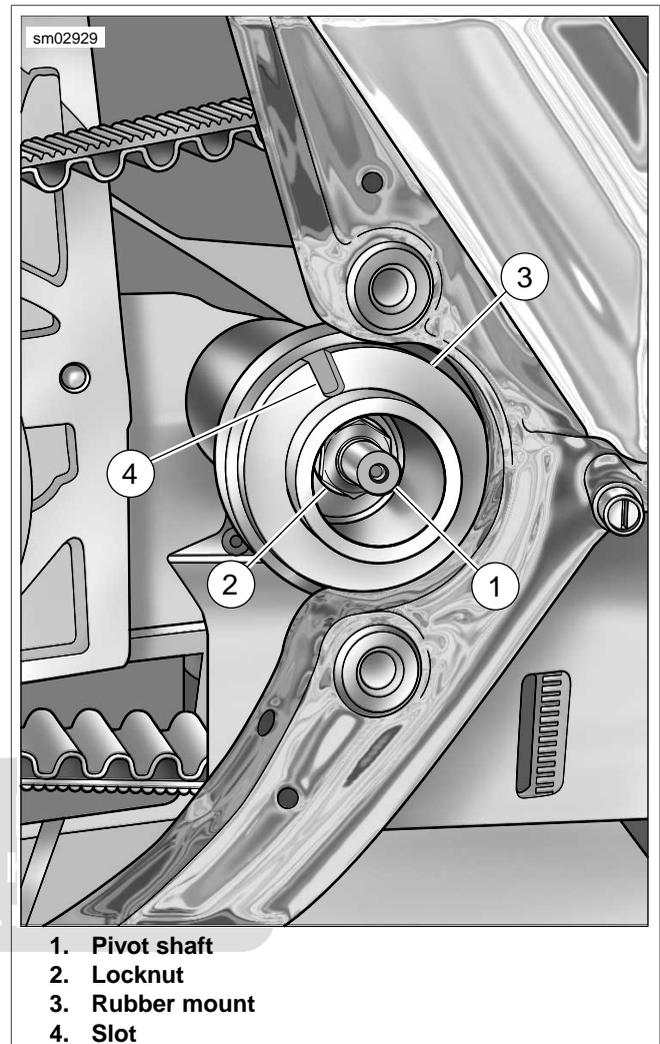

Figure 2-77. Remove Rear Swingarm Bracket (Left Side View)
7. Remove two bolts (with lockwashers) to free rear swingarm bracket from left side of motorcycle frame. See Figure 2-77.
- g. Moving to left side of motorcycle, rotate the rubber mount so that the slot is between the eleven and twelve o'clock positions. Install left side swingarm bracket fitting index tab into rubber mount slot. See Figure 2-77.